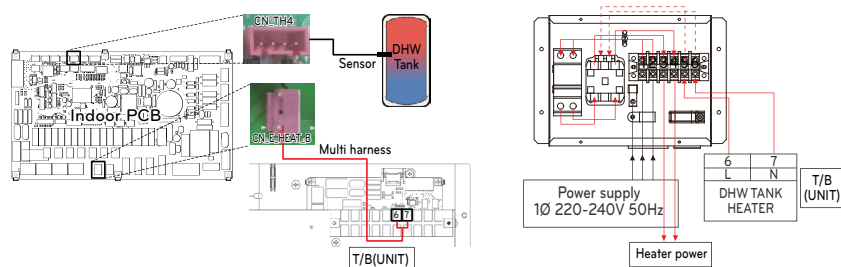

Fig. 1
Step 2. Connect Harness(Violet) of Main PCB assembly(TB1(6/7)) to 'CN_B_Heat_A' of the Main PCB like following fig. 1.
Step 4. Connect power supply to the DHW tank kit as shown fig. 1.
- Step 1.** Decide where the remote temperature sensor is installed. Then, Determine the location and height of the fixing screws in fig. 1 (Interval between the screws : 60mm)